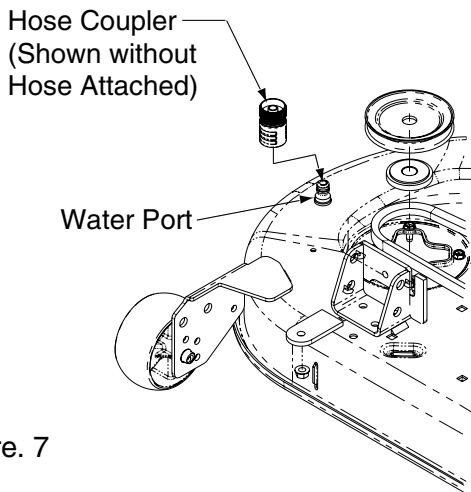

Figure. 7
- e. Thread hose coupler (packaged with this manual) onto the end of your garden hose. See Figure 7.
- f. Attach the hose coupler to the water port on your mower deck's surface. See Figure 7. Turn the water on.